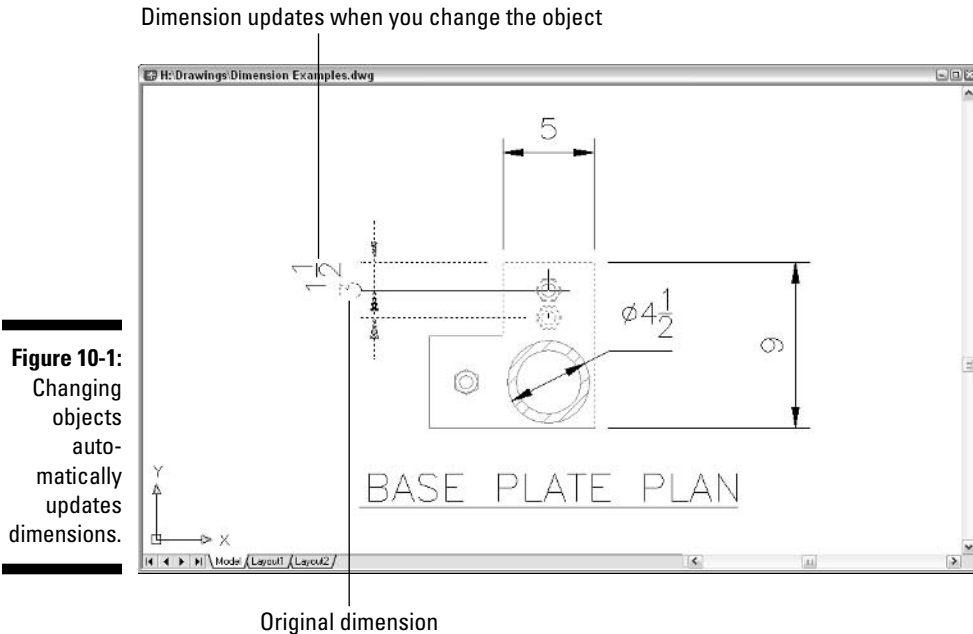
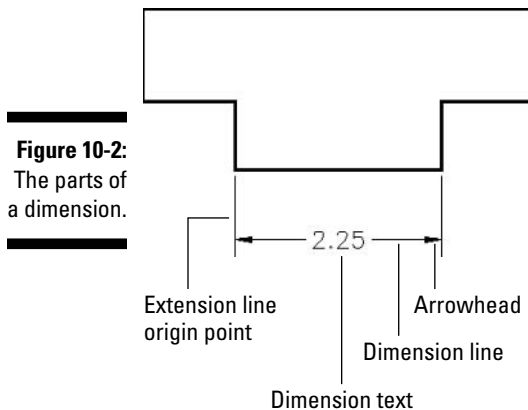

Figure 10-1:
Figure 10-2:
In drafting — either CAD or manual drafting — *dimensions* are special text labels with attached lines that together indicate unambiguously the size of something. Although drawing all the pieces of each dimension with AutoCAD LT commands such as Line and mText is theoretically possible, dimensioning is so common a drafting task that LT provides special commands for doing the job more efficiently. These dimensioning commands group the parts of each dimension into a convenient, easy-to-edit package. Even better, as you edit an object — by stretching it for example — LT automatically updates the measurement displayed in the dimension text label to indicate the object's new size, as shown in Figure 10-1.
AutoCAD LT uses the names shown in Figure 10-2 and I describe in the following list to refer to the parts of each dimension:
the dimension lines (see Figure 10-2), but you can change those settings to cause the text to appear in a different location — riding above an unbroken dimension line as shown in Figure 10-1, for example. See the section “Adjusting style settings,” later in this chapter, for instructions.
- ✓ **Dimension arrowheads:** The dimension arrowheads appear at the ends of the dimension lines and clarify the extent of the dimensioned length. AutoCAD LT’s default arrowhead style is the closed, filled type shown in Figure 10-2, but you can choose other symbols, such as tick marks, to indicate the ends of the dimension lines. (Don’t get ticked off, but LT calls the line ending an *arrowhead* even when, as in the case of a tick mark, it doesn’t look like an arrow.)